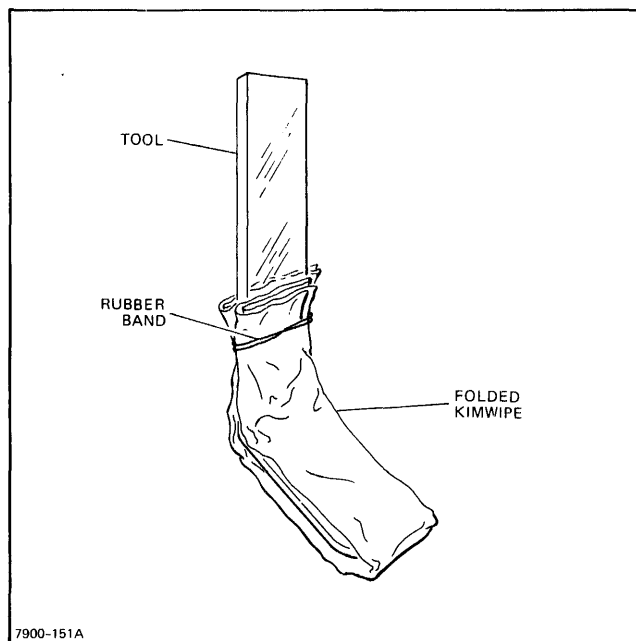

Figure 5-1. Prepared Head Cleaning Tool
- c. Fold one Kimwipe tissue (Type 900-S) into a rectangle (approximately 1 by 5 inches) and wrap it over the rounded edge of the head cleaning tool. A rubber band can be used to secure the Kimwipe to the tool for ease of handling. (See figure 5-1.)